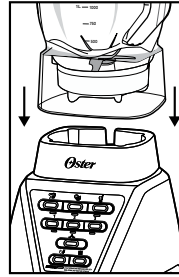

Fig. 18
- Turn the jar up and place it onto the motor base (Fig. 18).